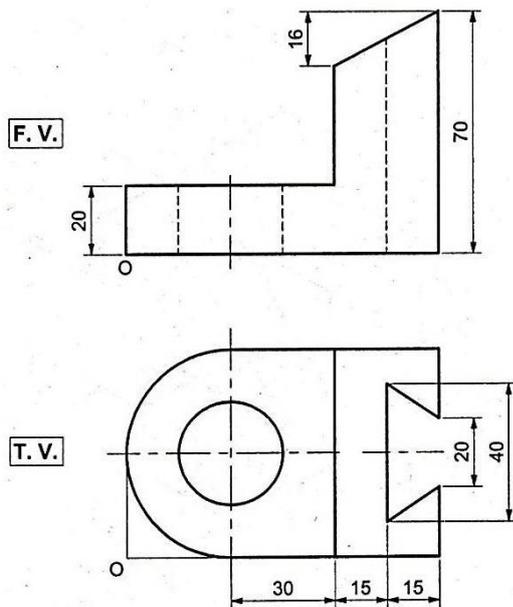

Fig.1
2. Fig.1 shows Front View and Top View of an object. Draw Isometric Projection.